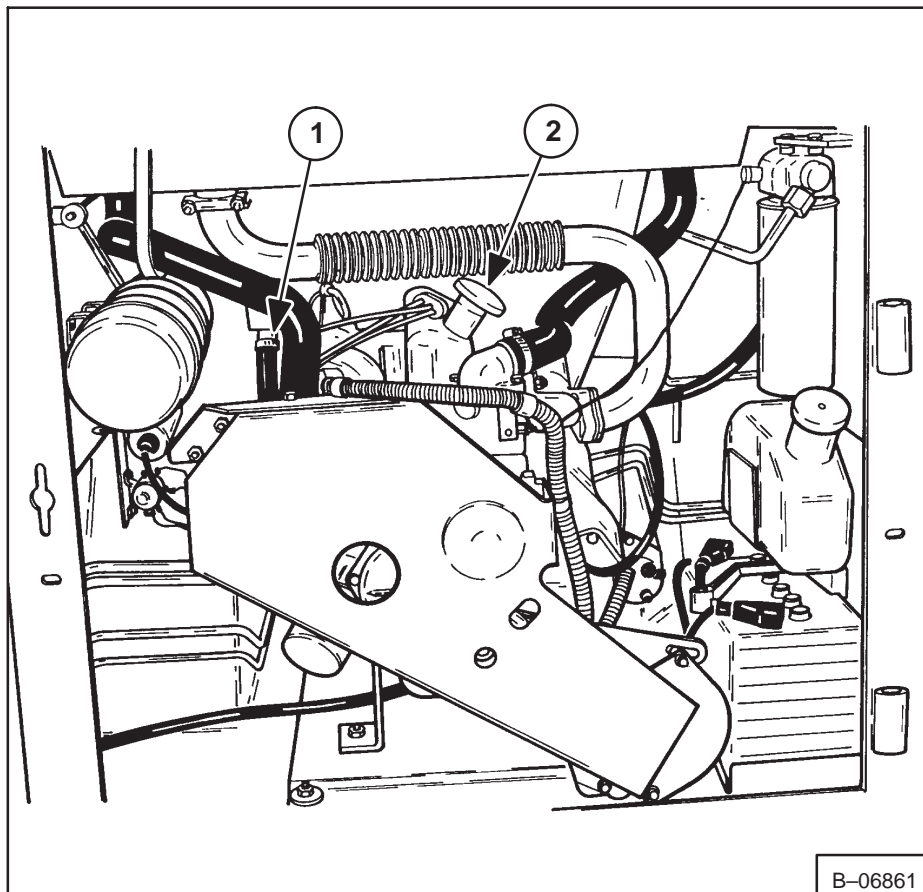
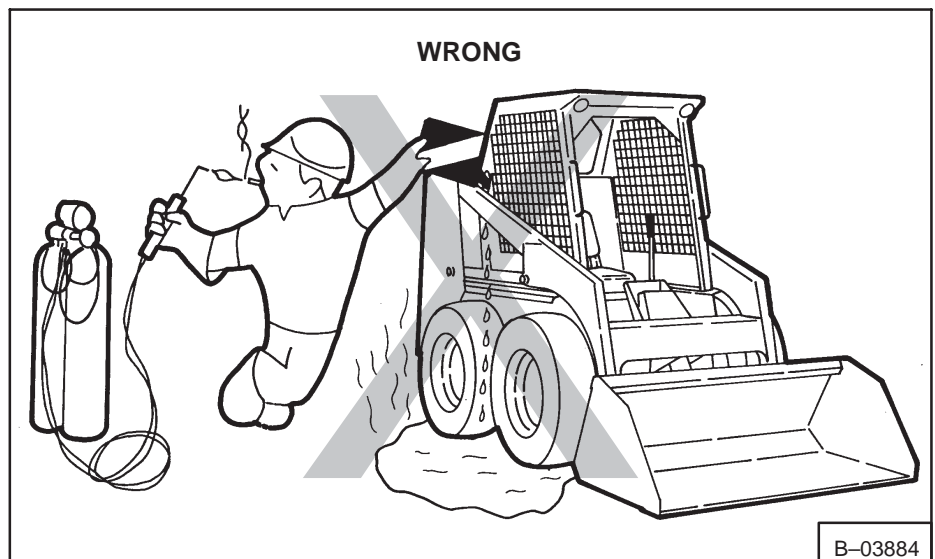

Fig. 1-11 Engine Servicing (642)
Fig. 1-19 Fuel Filling Procedure
5. Install the oil plug. Remove the oil filler cap (641, Fig. 1-19, Item 2) (642, Fig. 1-11, Item 2) (643, Fig. 1-12, Item 3).
3. Add fuel only in an area that has a free movement of air and no open flames or sparks. NO SMOKING (Fig. 1-19).